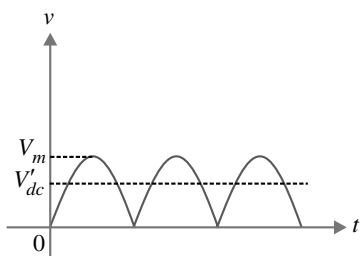

Fig. 4.55
**Solution.** The output of a full-wave rectifier has a d.c. component and an a.c. component. Due to the presence of a.c. component, the rectifier output has a pulsating character as shown in Fig. 4.55. The maximum value of the pulsating output is  $V_m$  and d.c. component is  $V'_{dc} = 2V_m/\pi$ .